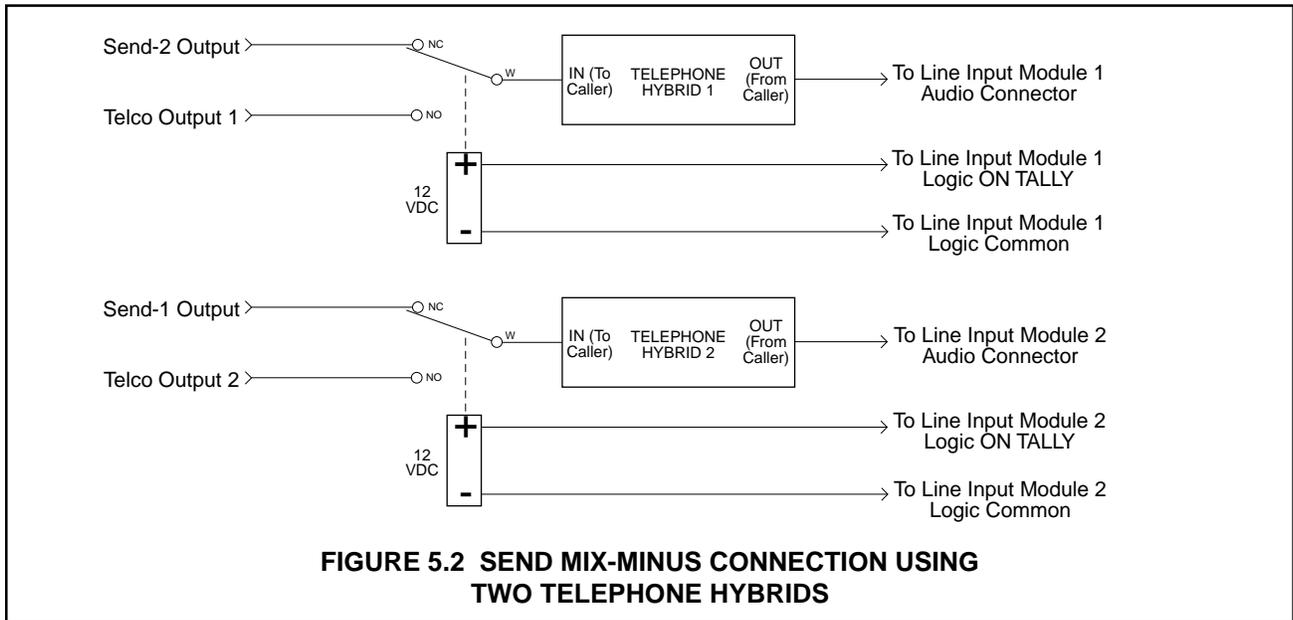

FIGURE 5.2 SEND MIX-MINUS CONNECTION USING TWO TELEPHONE HYBRIDS
In systems where both Send outputs are being used, connect Telco Outputs 1 and 2 and the Send-1 and Send-2 outputs to the two telephone hybrids as shown in Figure 5.2 (on the following page).
1. Depress the PRE-fader and SEND-1 buttons on all input modules to be added to the Send-1 output. This includes Caller-1 audio, since Send-1 will be fed to Caller-2 and Send-2 will be fed to Caller-1, as shown in Figure 5.2.